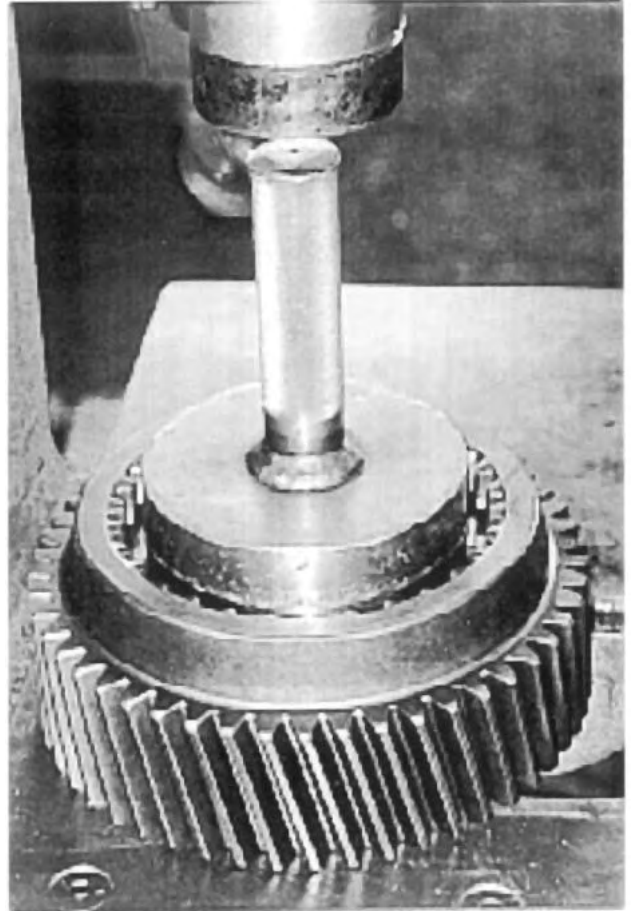

Fig. 46
3. If removed during disassembly, press the bearing cups into the lower direct drive gear. *See Fig. 46.*